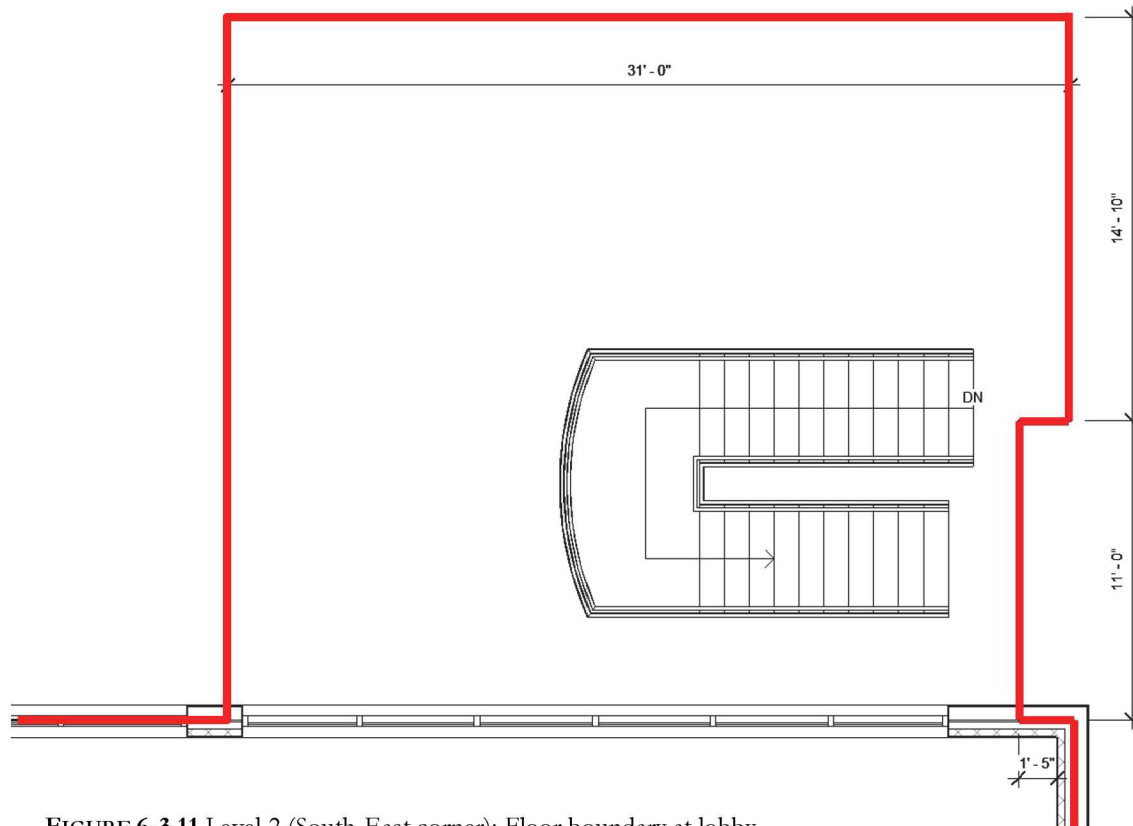

FIGURE 6-3.11 Level 2 (South-East corner): Floor boundary at lobby
26. Sketch the floor opening as shown in Figure 6-3.11: